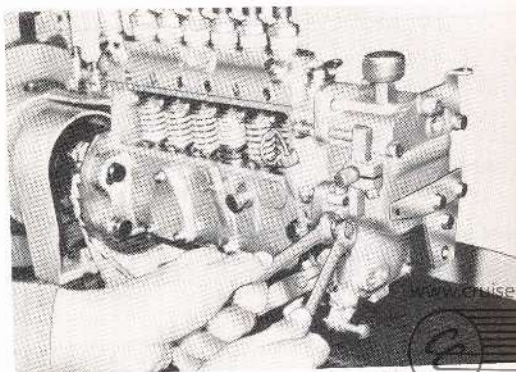

Fig. 3-180 Idle Adjusting Screw Tight
- a. Rotate the pump at 800 rpm revolution, and slightly incline the adjusting lever. With the rack position at 2.0 mm (0.079") position, turn the idle adjusting screw as per Fig. 3-180, and secure the lever by tightening the lock nut.